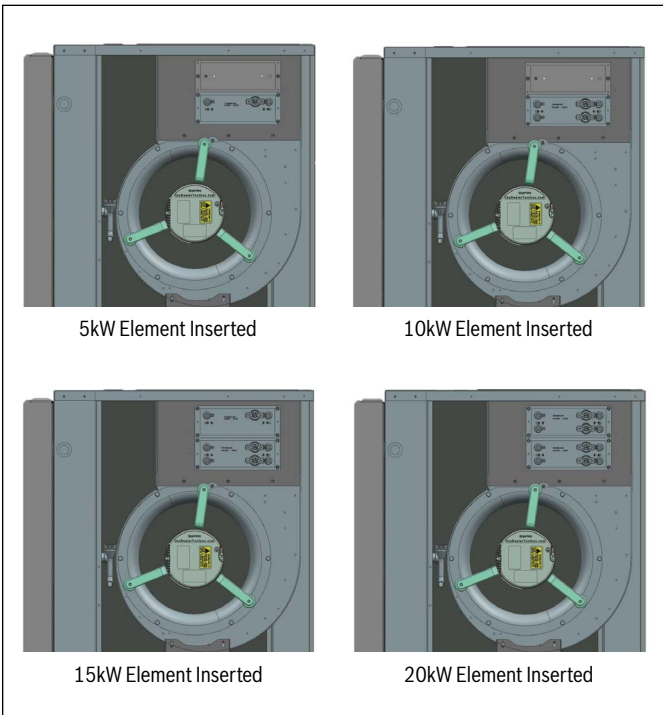

Figure 25
- The installed heating elements should look like the following for each kit (figure 25):